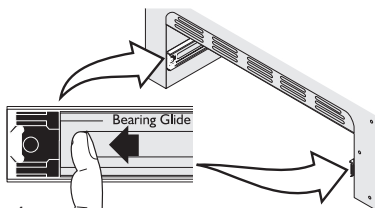

Fig. 4
1. Pull the bearing glides to the front of the outer compartment glide channels until they snap into place (refer to Fig. 4).